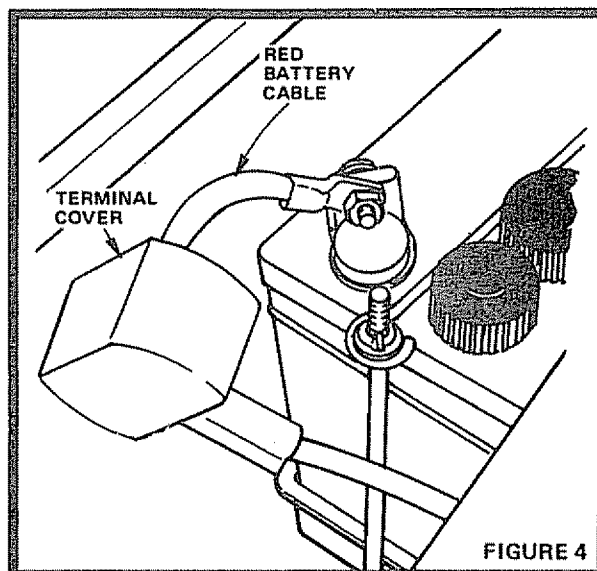
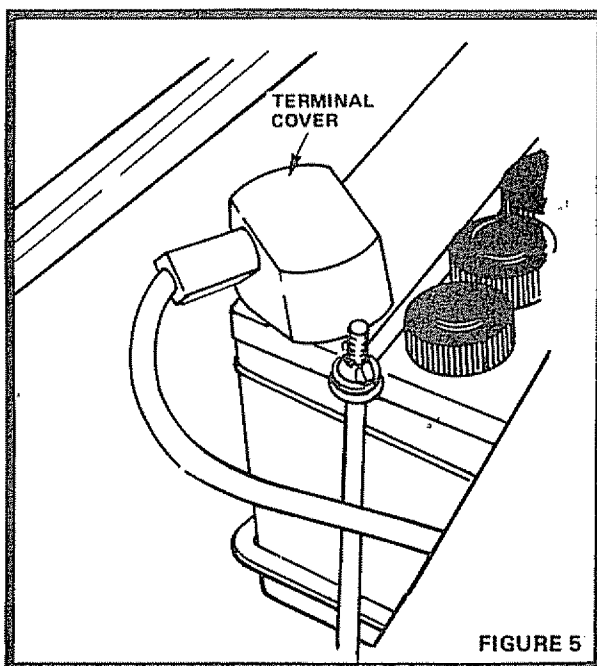

FIGURE 4
FIGURE 5
- a. Position Terminal Cover over RED Battery Cable (Fig. 4).
- b. Connect RED Battery Cable to Positive (+) Battery Terminal with Hex Bolt, Flat Washer, Lockwasher and Hex Nut (Fig. 3). Form Cable in an upward position (Fig. 4) and tighten securely. Place Terminal Cover over Terminal. **NOTE: PULL TERMINAL COVER FORWARD TO ENCLOSE BATTERY TERMINAL (Fig. 5).**